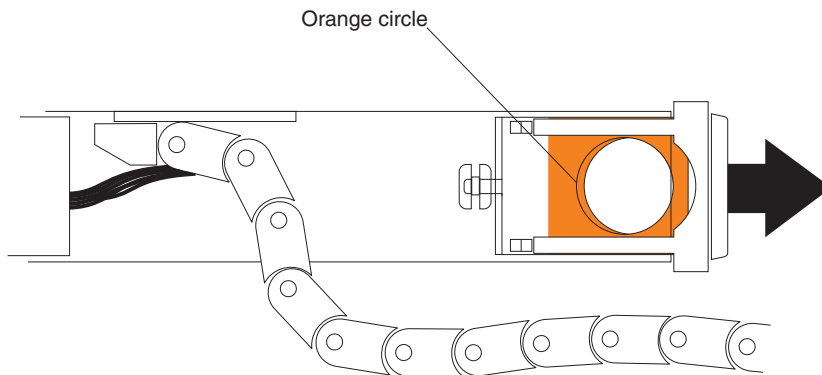

Figure 60. Horizontal mounting bracket that connects to the drive drawer
- d. Disconnect the right cable chain mounting bracket from the drive drawer. Hold the orange handle (see Figure 60), and pull the mounting bracket completely out of the drive enclosure. Remove the right cable chain.